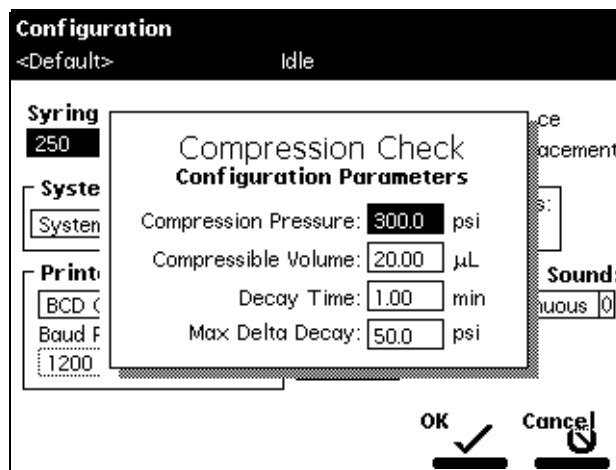

Figure 3-10 Compression Check Dialog Box
- Press the **Comp Check** screen key. The Compression Check dialog box appears. Figure 3-10 shows default parameter settings.